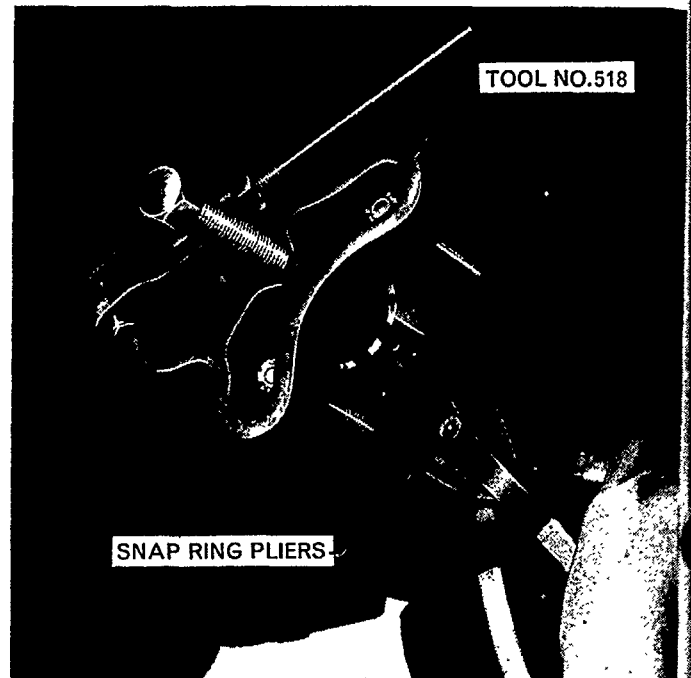

Figure 12
3. Compress the brake spring using Tool No. 518 as shown in Figure 12 and remove the locating snap ring.
2. Position retainer and snap ring. Using Tool No. 518 as shown in Figure 12 compress the brake spring.